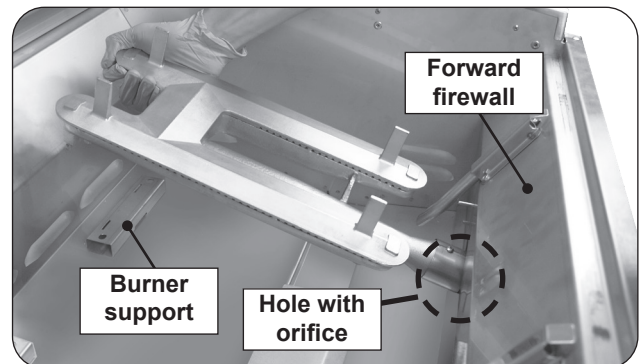

Fig. 44-3 Remove main burner
3. Carefully lift the burner from the burner support and out from the hole in the forward fire wall. See Fig. 44-3.